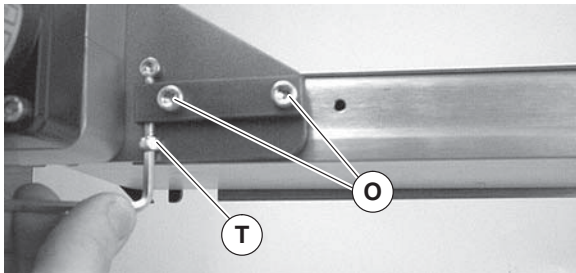
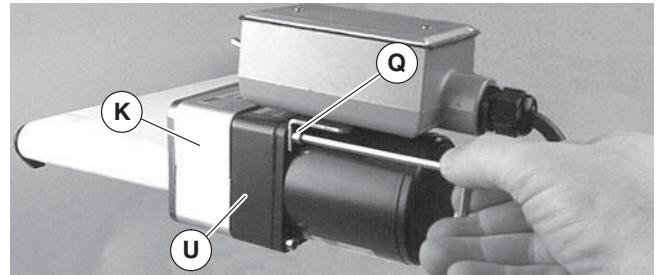

Figure 10
Figure 11
1. Loosen two (2) screws (Figure 10, item O). Tighten timing belt tensioner screw (T) to 15 in-lb (1.7 Nm).
1. Loosen two (2) screws (Figure 10, item O).
2. Loosen timing belt tensioner screw (T).
3. Remove four (4) screws (Figure 11, item Q). Remove gearmotor (U) and top cover (K).
7. Insert top cover (Figure 11, item K) into bottom cover. Mount assembly with two (2) top screws (Q). Tighten to 45 in-lb (5 Nm).
8. Tighten timing belt tensioner screw (Figure 10, item T) to 15 in-lb (1.7 Nm)
9. Tighten screws (O) to 80 in-lb (9 Nm).